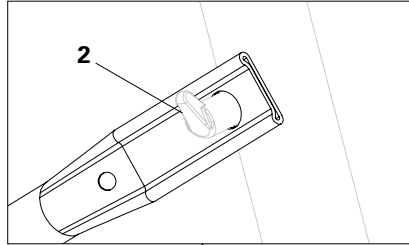
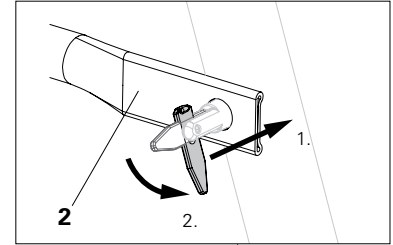
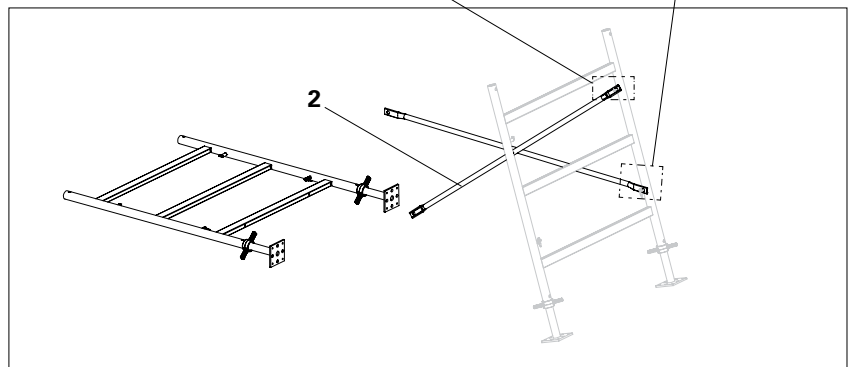

Fig. A1.03a
Fig. A1.03b
Fig. A1.03
4. Suspend the PD 5 Diagonal Brace (2) at the top on the cams (Fig. A1.03a) and then insert below over the gravity pin. Tilt the gravity pin downwards (Fig. A1.03b). Ensure that the Frame is secure against tipping. (Fig. A1.03)